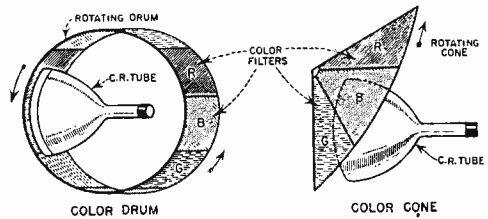

Fig. 3
FIG. 3. (A) Means of controlling the lobes in the antenna field pattern. The "wings" are commercially-available RCA type. Each is usually spaced nine inches from the lead-in connection but may tune the antenna better if adjusted individually on dipole arms. (B) Several arrangements of an indoor "V"-type antenna which can sometimes be used.
Whether an antenna matches is usually of little consequence. Trifilar and line transformers are fancy gadgets. The diagrams, Fig. 3, show designs to overcome the wide lobes in the receiv-
system, as it is presently being demonstrated, is the bulkiness of the mechanical color disc. Since each of the six color filter segments arranged on this wheel must be large enough to cover most of the picture tube face, the wheel must be at least twice the diameter of the tube. This sets a practical limit on the size of the picture tube which can be used—tubes larger than about 12½ inches requiring discs of ungainly proportions. However, magnification can easily be employed to provide larger pictures from small tubes. Other forms of the color wheel, such as the color cone or color drum shown in Fig. 3, have form factors more adaptable to TV cabinets. No problem exists at the transmitter, since the filters used need only be large enough to cover the camera lens.